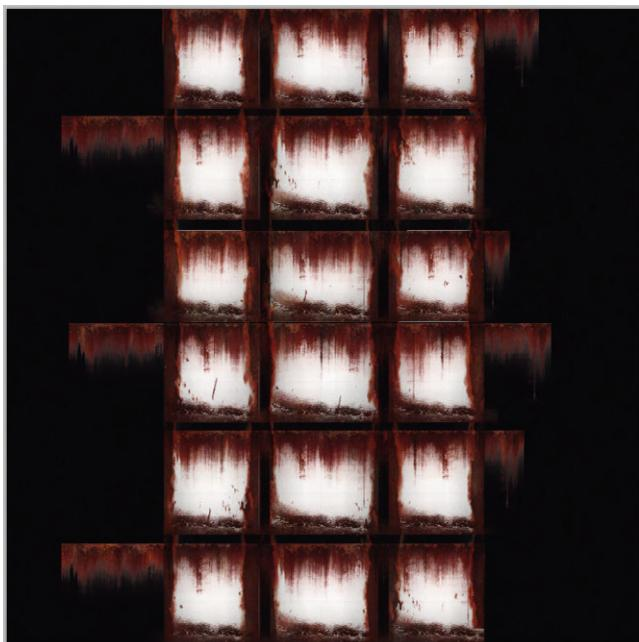

FIG 6.26 Rough color map.
Step 48: Open the baked AO texture and then grab some grime materials off of CG Textures and lay in the grime that would be on the individual window panes. Do this in Photoshop (of course) and be sure to keep these grime layers un-flattened (Fig. 6.26). Save this to the images folder as ETM_WindowPanesRaw.psd.